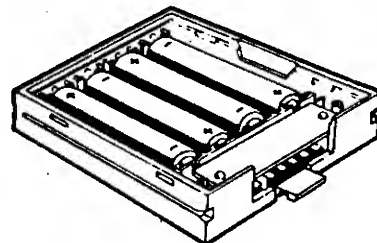

Figure 930-6 Inserting Batteries
7. Insert the four AA size batteries with positive and negative poles positioned as shown in Figure 930-6. All negative poles must be touching the springs of the battery case. If the batteries are not placed exactly as described, the PC-8300 could be damaged.